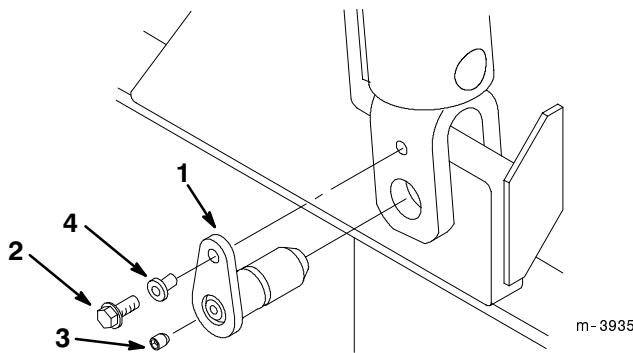

**Figure 1**
3. Remove the existing pivot pin from the bottom of a loader arm hydraulic cylinder (Fig. 1). Retain the pin for use when removing the tracks.